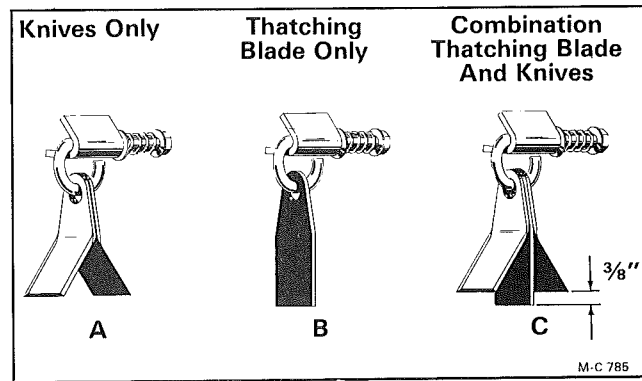

Figure 13
1. The Flail Pick-Up Mower is an excellent machine for overseeding. With both the mowing knives and thatching blades installed on the rotor, it will do an excellent job of preparing an existing lawn for overseeding. The thatching blades hang down 3/8" lower than the mowing knives (See "C" in Figure 13) and will remove the mat of dead grass and give you a seed bed in the existing turf. You will be mowing your grass very short while you are preparing a seed bed.
2. Only the thatching blades alone are used for this operation (See "B" in Figure 13).